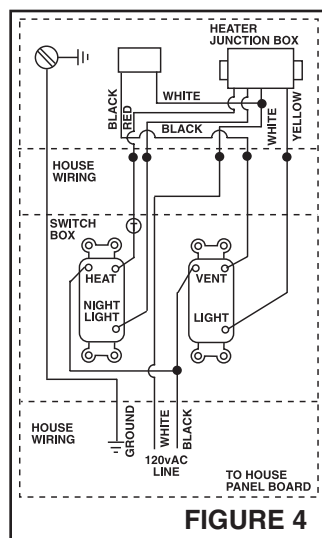

FIGURE 4
Refer to Figure 4.
- When a thermostat or timer switch is used, connect at point marked "T" on Figure 4.